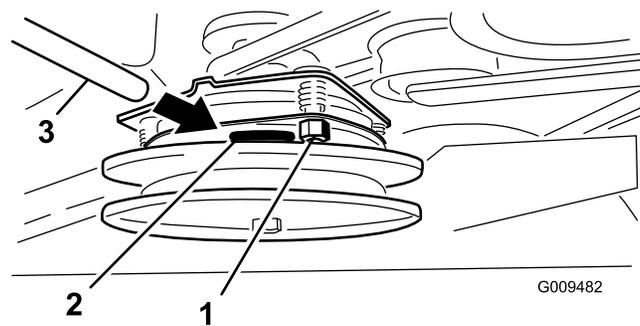

Figure 58
2. If adjustment is needed, then set at .015 inches (0.381 mm) for each of the three adjustment slot positions. Tighten the lock nuts until there is slight binding on the feeler gauge but it can be moved easily within the air gap (Figure 58).